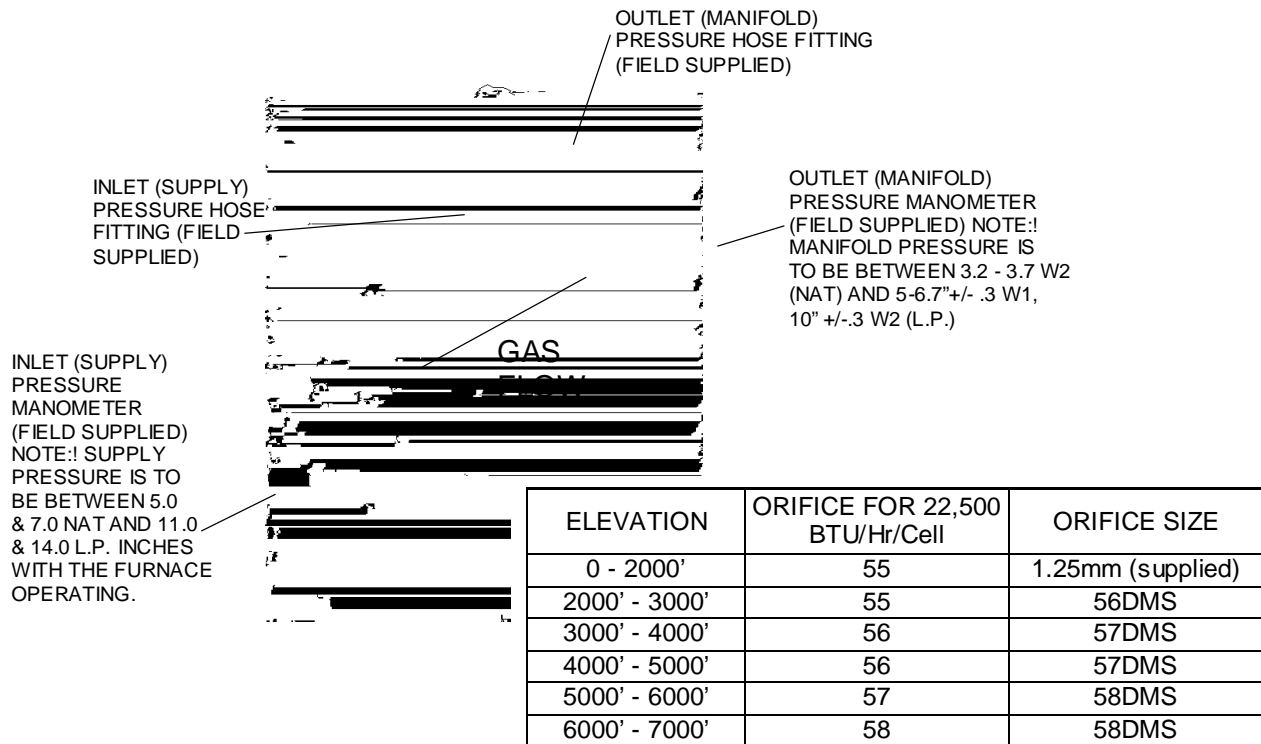

FIGURE 2
15. Install the burner manifold into the furnace using the (4) screws removed in step 6. Care is to be exercised to ensure that the manifold rubber grommet is engaged correctly into its receiving slot on the burner box (GSU and GSM Models Only). Install the gas valve wiring harness.
16. Connect both the inlet and outlet barb fittings (installed in step 13) to (2) separate manometers. See Figure 2.